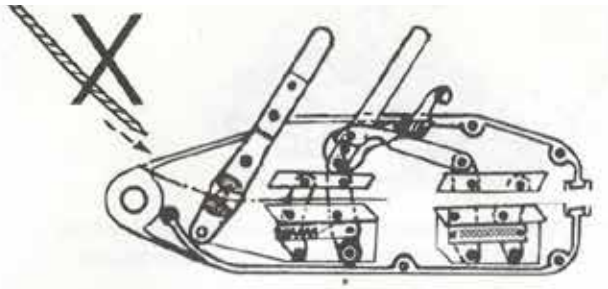

Fig. 4
- Never use the wire rope chosen by yourself instead of the old one. If it is done or any accident happens, the consequence should be answered by the users. When the diameter of the working part of the wire rope has been damaged by 10%, a new one provided by our factory should be replaced. Never reeve the rope from the head of the hoist (Fig. 4) or the direction of the hook must not be used reversely. If it does so work can't be done or accident is easy to happen. While working, the anchored object should be strong enough so as to support the load to prevent any accident happening.